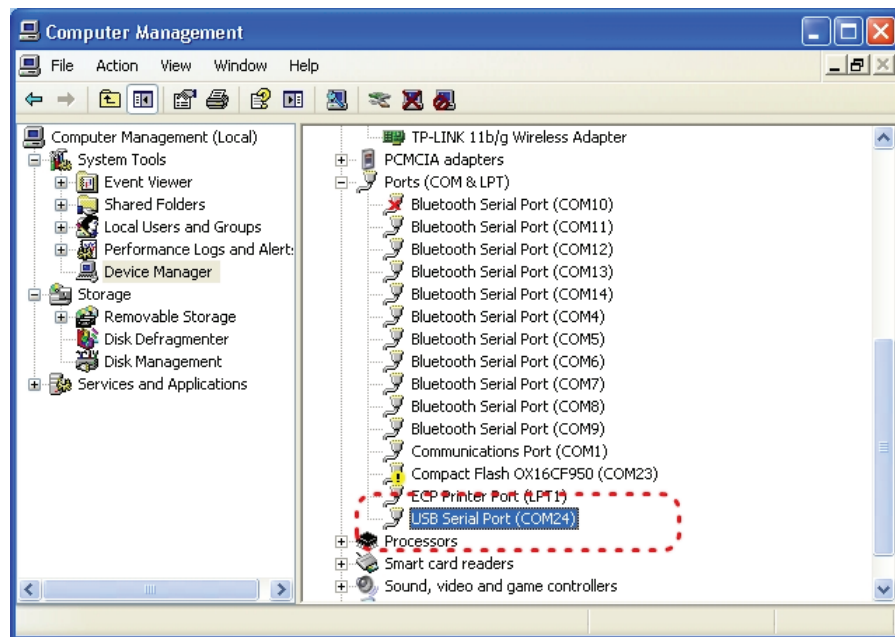

Figure 3.
If using a USB Adapter, the list of ports will be updated to reflect the new device. The LA GARD USB Interface Adapter can be identified in the list as **USB Serial Adapter**. The virtual COM Port assigned to the USB port where the Adapter is currently installed will follow the device description (Figure 3).
- If the COM port has been incorrectly set, return to the setup window (Figure 3), and select the correct COM port.